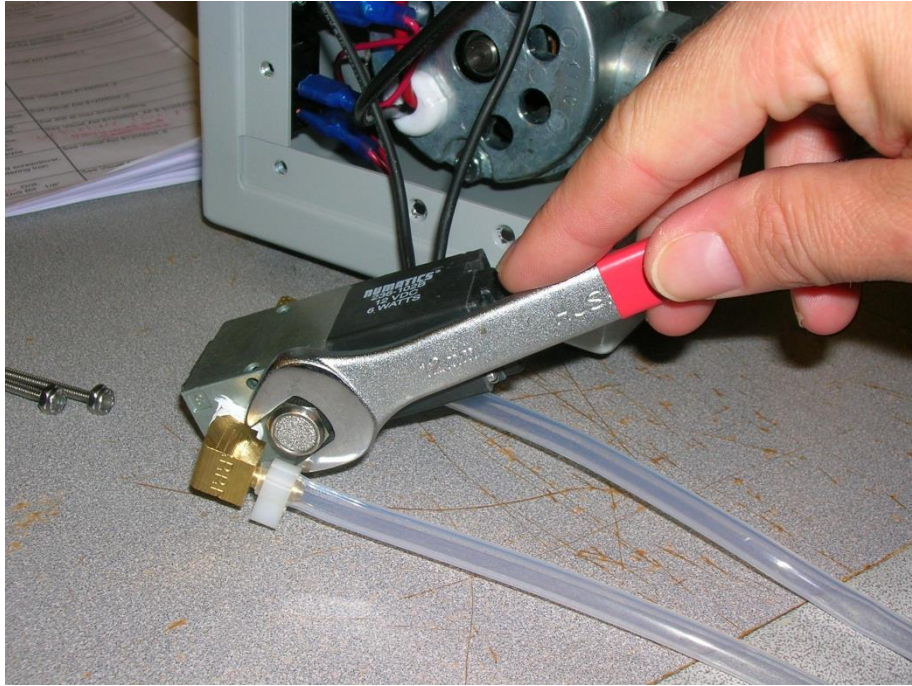

Figure 4-3
4. Unscrew the breather vents from the solenoid using a 7/16" wrench. See Figure 4-3.